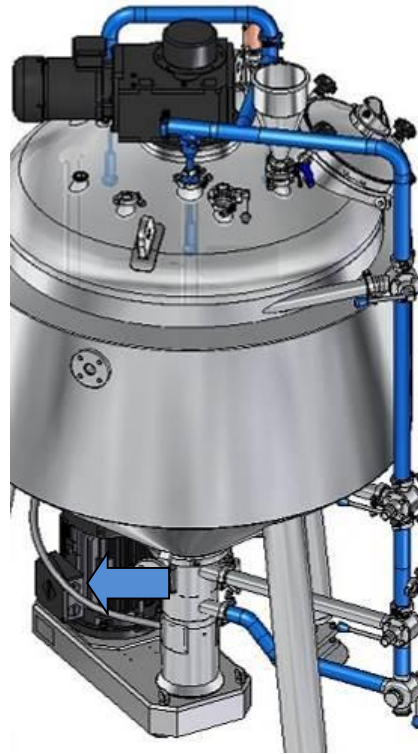

Fig 6.7. Circulation with CIP shearing
- Circulation with CIP shearing (Fig 6.7)